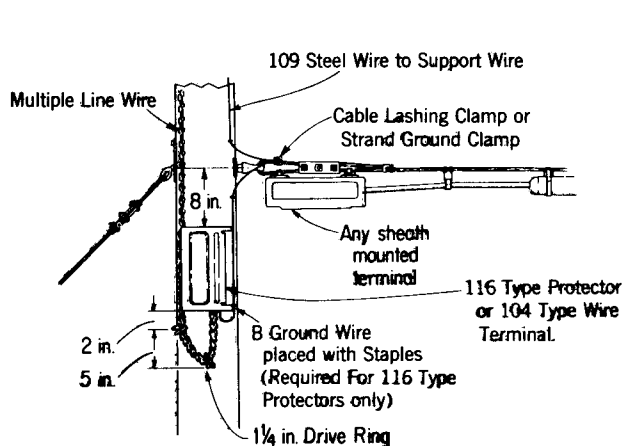

Fig. 18 — Deadend Pole With Strand-Mounted Cable Terminal
5.02 The various types of 6-pair wire terminals or protectors should be located at cable deadend poles as shown in Figs. 18 and 19.